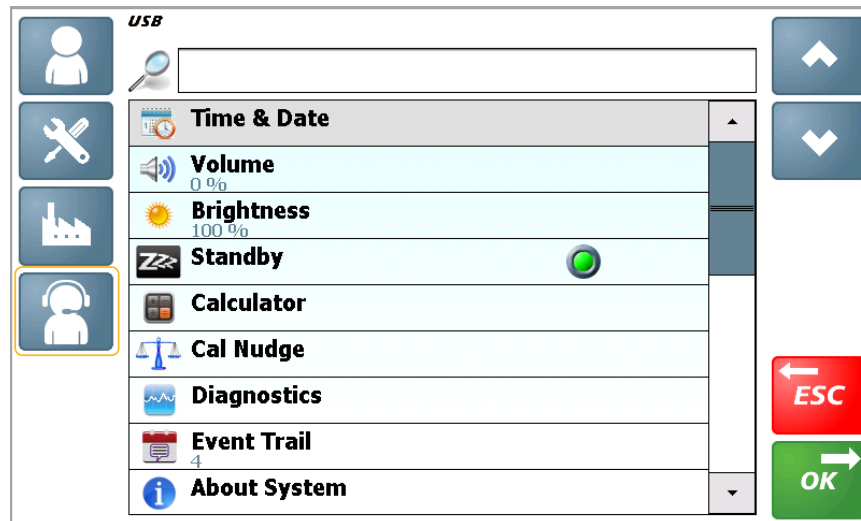

Figure 3-16: Load Weighing Display Setup Menu
1. Select **Setup**  to open the **Setup** menu (Figure 3-16).